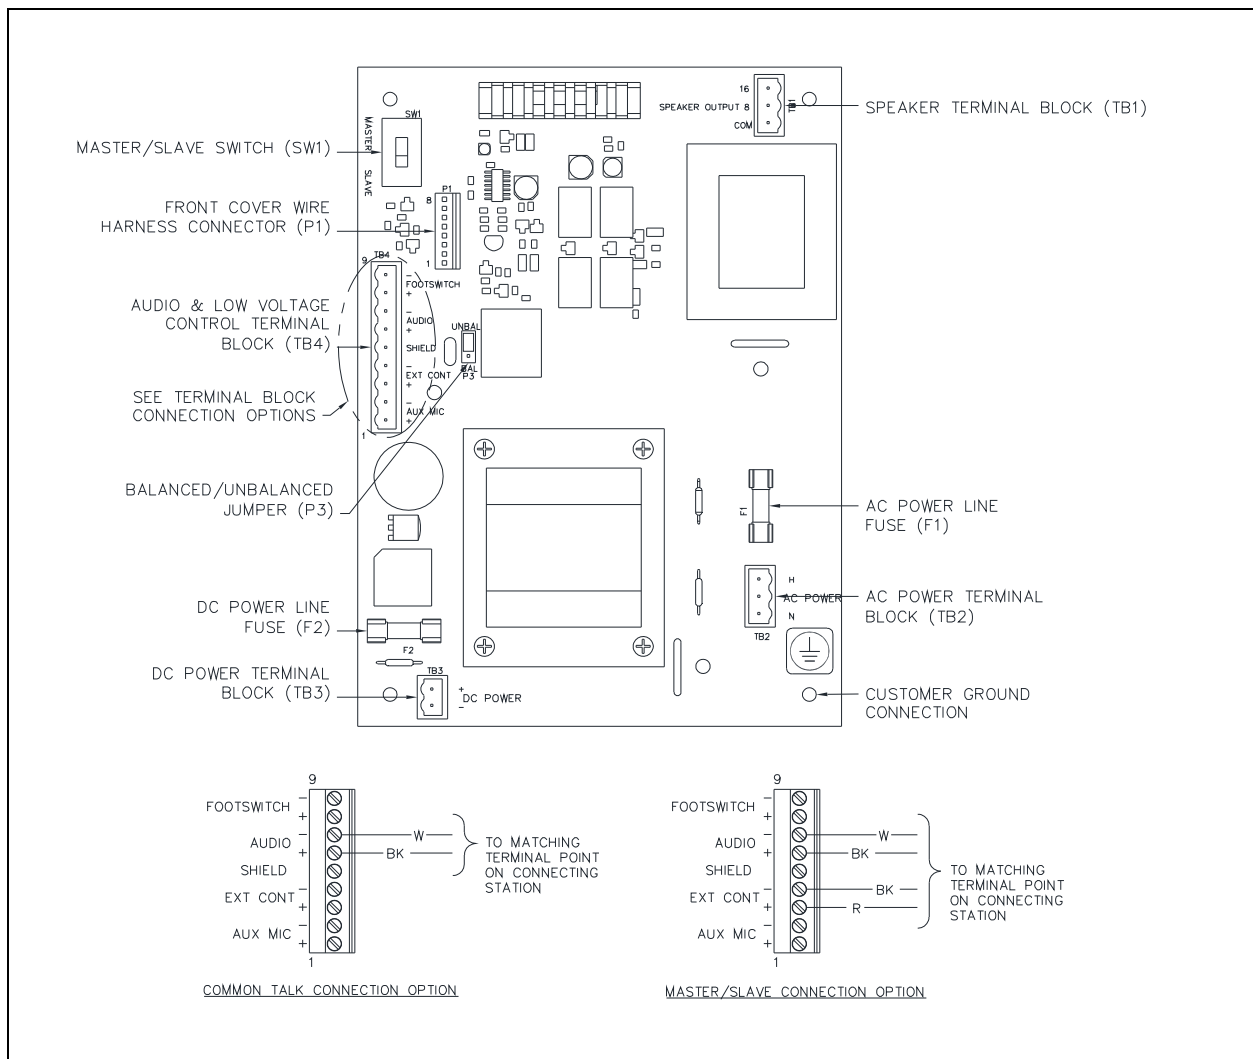

Figure 5. RigCom Station PCBA
2. Connect the ring lug on the ground wire to the ground terminal, located at the lower right corner of the RigCom station PCBA (see Figure 5).
5. Attach the wires to the terminal blocks, on the PCBA, within the enclosure (see Figure 5 and the Field Connections section for connection points and descriptions).
Plug the front cover wire harness connector in at P1 (see Figure 5).